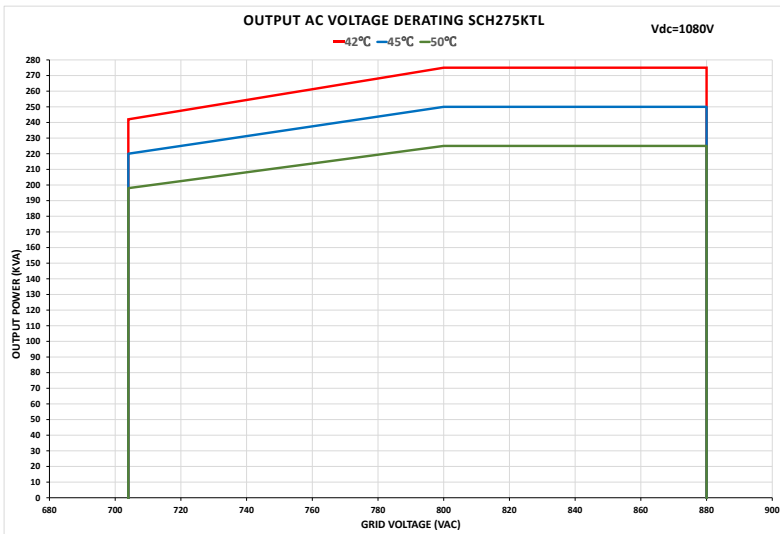

Figure 9-2 Derating curve with grid voltage
- When the grid Voltage is within 100%~110% of the rated output voltage, the inverter output power may reach 100%. When the grid voltage is lower than 100%, the inverter will limit the AC Output Current and the output power will begin to derate, as shown in Figure 9-2.